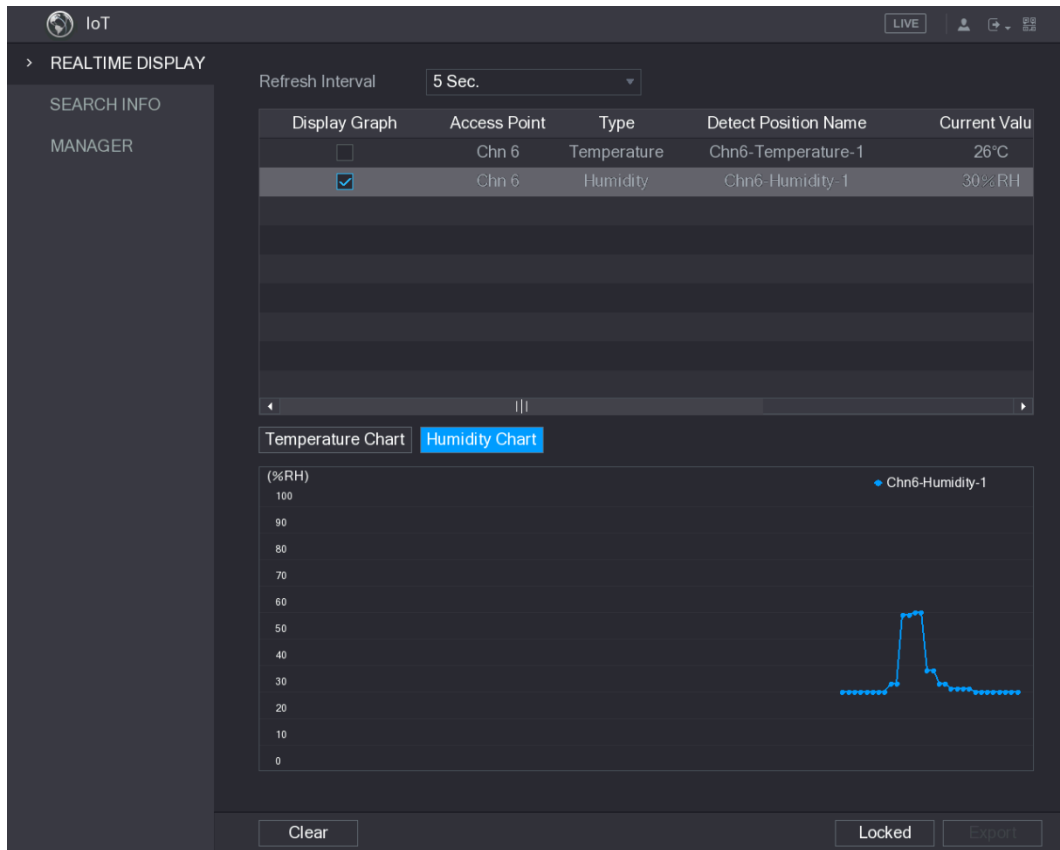

Figure 5-188
Step 2 On the **Realtime Display** interface, click the **Humidity** tab. See Figure 5-188.